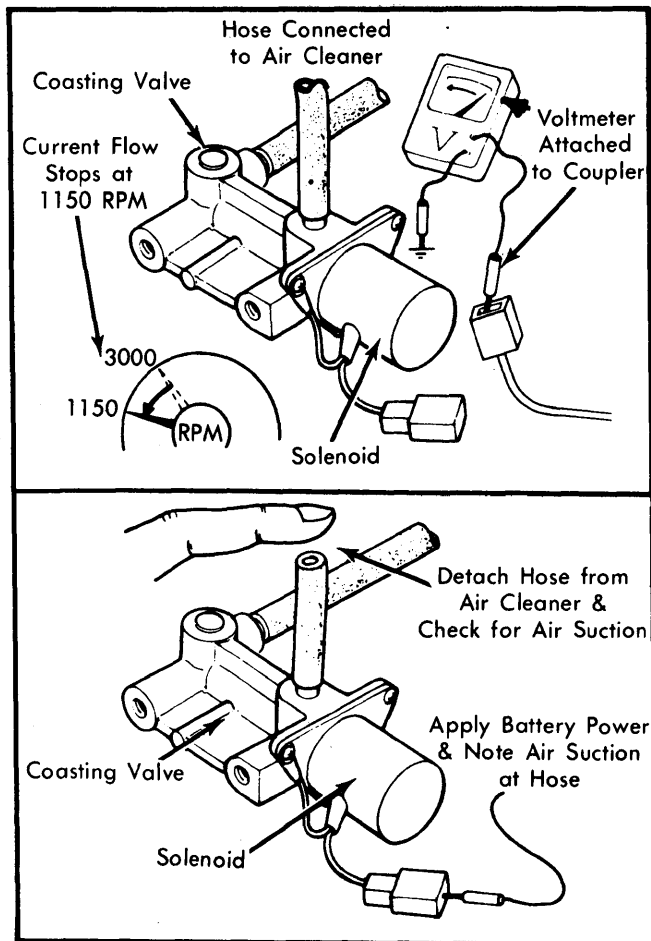

Fig. 3 Testing Coasting Valve
1) Connect tachometer to engine. Start and warm engine to normal operating temperature. Detach electrical coupler from coasting valve. Attach voltmeter to terminal as shown. Fig. 3.